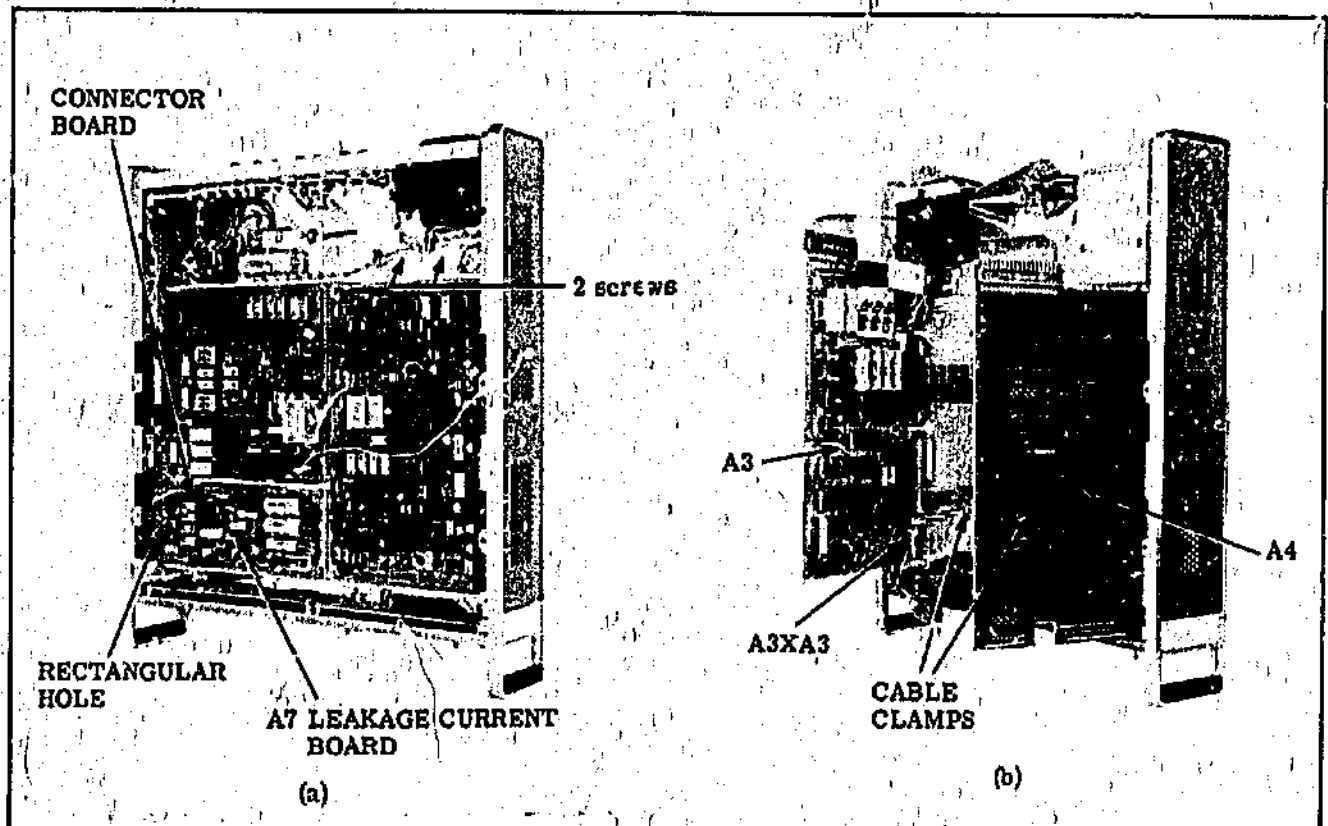

Figure 2-3. Installation of Option 001 Leakage Current Measurement.
- c. Refer to Figure 2-3(a). Loosen the two screws indicated by arrows.
- f. Feed cable of Leakage Current Board (A7) through the small rectangular hole near left side frame. Dress cable as shown in Figure 2-3(b). Remove board (HP Part No. 04282-87207) from the A3XA3 socket. Discard board. Install connector board at end of W6 cabling in A3XA3. Pin A of new connector board should mate with pin A on A3XA3 (marked on board) as shown in Figure 2-3(b).
- g. Install cable clamp at the two points illustrated in Figure 2-3(b).
- l. Tighten two screws indicated with arrows in Figure 2-3(a).